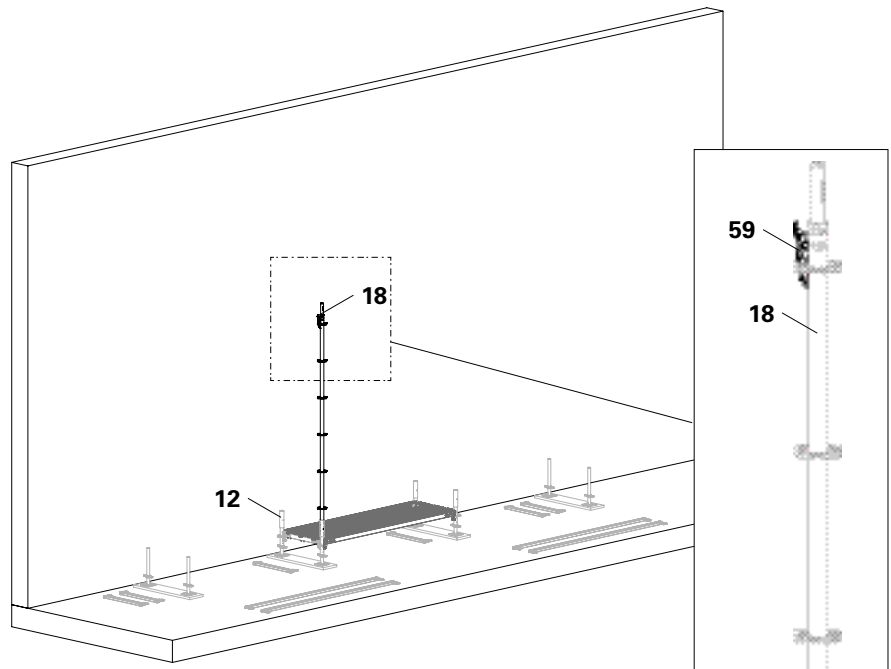

Fig. B2.05
2. Attach the pre-assembled standard to the base standard (**12**) on the outside of the scaffold. The Guardrail Holder EPW must face inwards. (Fig. B2.05)